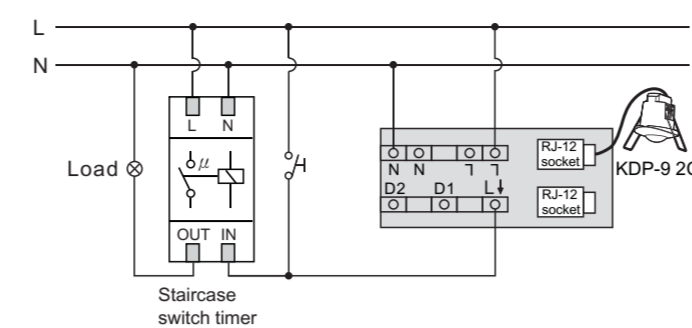

FIG.7
- KDP-9 2C controls staircase switch timer (time1 should be set to $\sqrt{3}$) (See FIG.7).